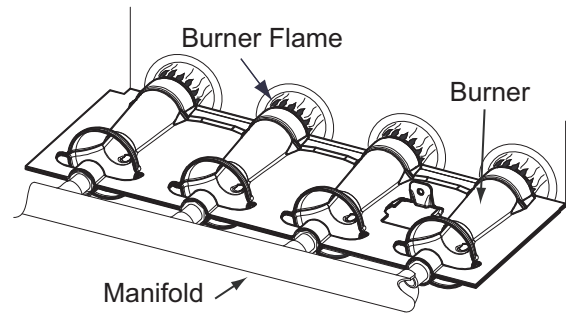

Fig. 5 - Burner Flame Adjustment
6. The burner flames are in good adjustment, See Fig. 5 (by comparison with pictorial sketches or drawings of the main burner flame).